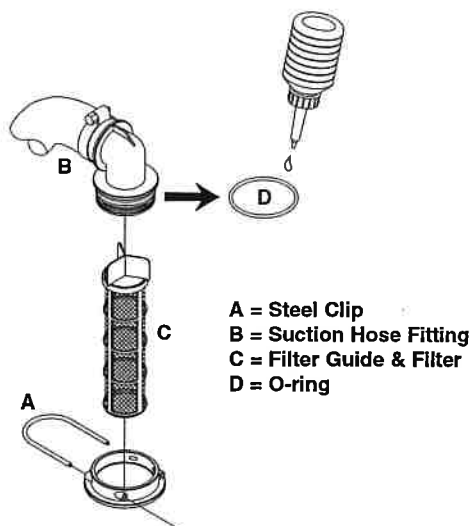

Fig 34
- 1 Pull the steel clip (A Fig 34) out.
- 2 Lift the suction hose fitting (B Fig 34) from housing.
- 3 The filter guide and filter (C Fig 34) can now be removed.
- 3 Ensure the O-ring (D Fig 34) on the hose fitting is in good condition and lubricated.
- 4 Refit the suction hose fitting (B Fig 34) and steel clip (A Fig 34).